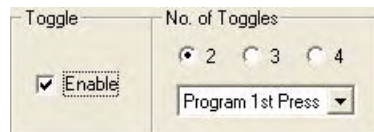

FIG. 61 Toggle window
1. Choose a button to configure and select **Button > Toggle**. This invokes the *Toggle* window (FIG. 61):